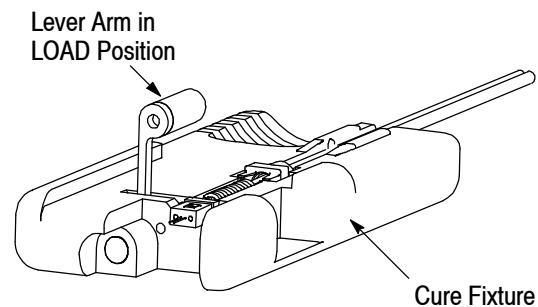

Figure 21
5. Rotate the cure fixture lever arm to the LOAD position. See Figure 21.